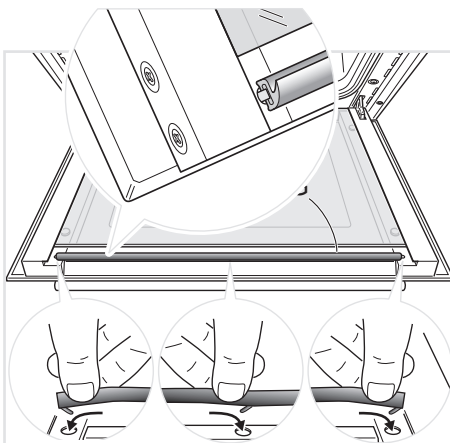

Figure 27d
- Reassemble the seal "G" in the correct way by hooking the no. 3 fixing hooks in the proper holes (fig. 27d).